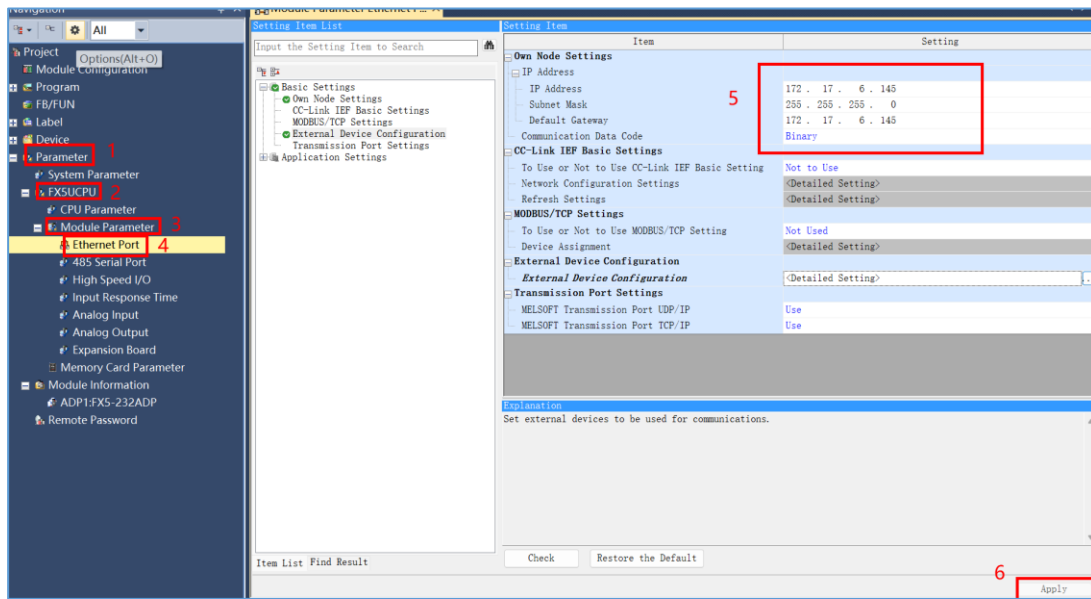

Figure 4
1) Click on "Parameters" - "FX5UCPU" - "Module Parameter" - "Ethernet Port", see Figure 4 for details;